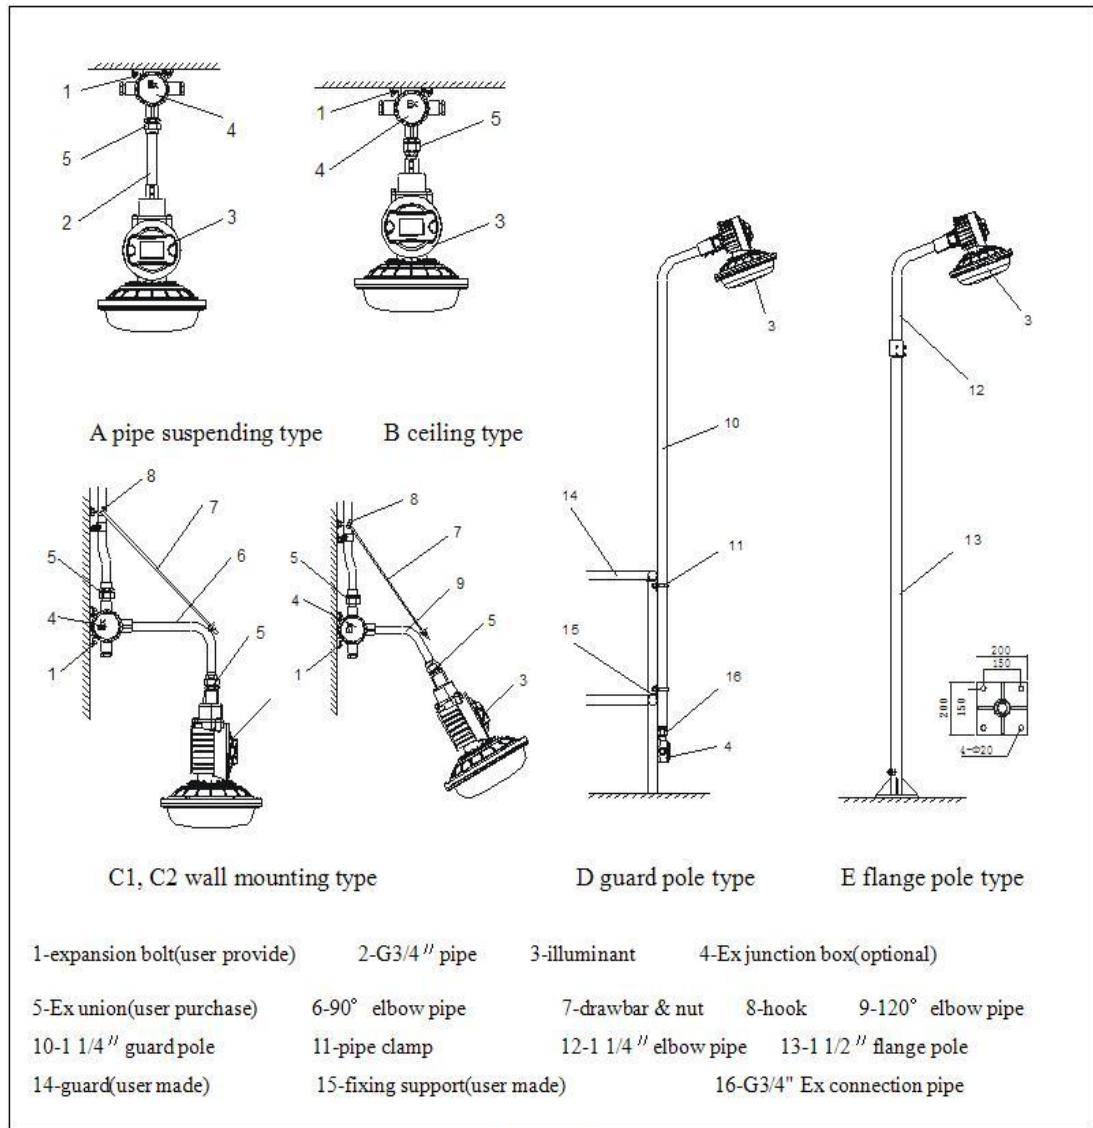

Figure 3
13. User shall follow the installation instructions to install the light correctly. (See Figure 3 for instruction)